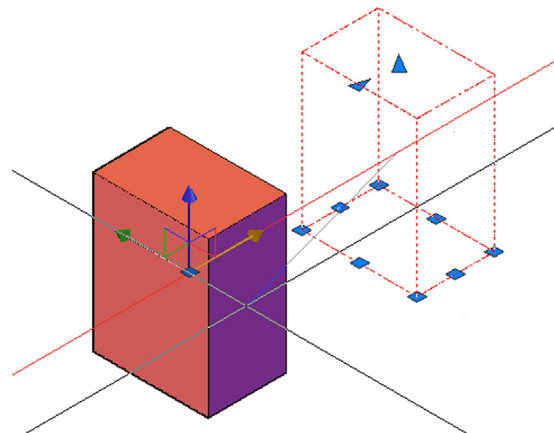

FIGURE 22.20
Step 3. A 3Dmove gizmo appears, but do *not* pick a base point. Instead, use the mouse to carefully select an axis. As soon as you do, the axis turns gold in color. The cube is constrained (even if Ortho is not on), and you can now slide the cube up and down that axis, as seen in Figure 22.20.